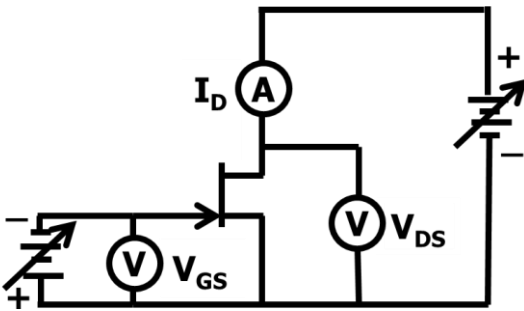

Fig 4.43
4.15 Drain Characteristics with Bias (Fig 4.43)